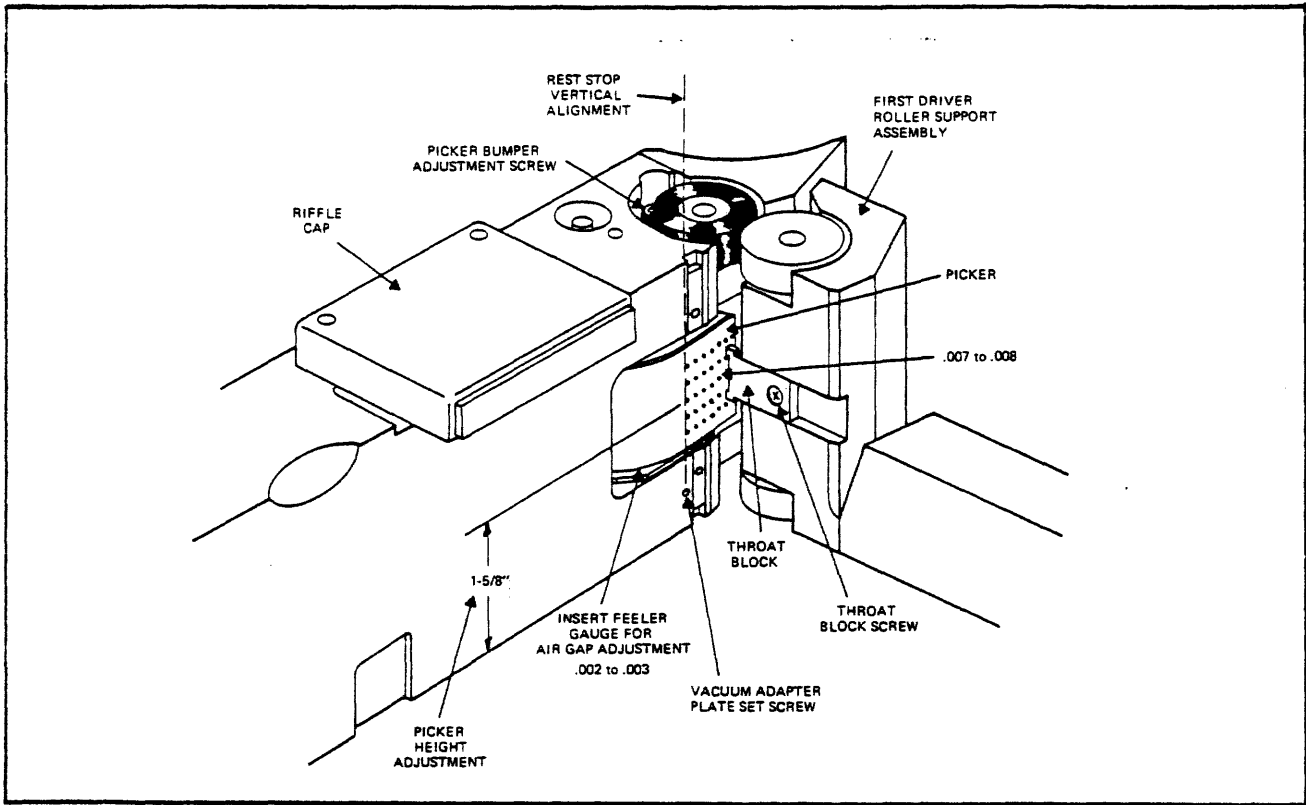

Figure 9-18. Picker Sector, Rear View
- g. Remove throat block, Figure 9-18.